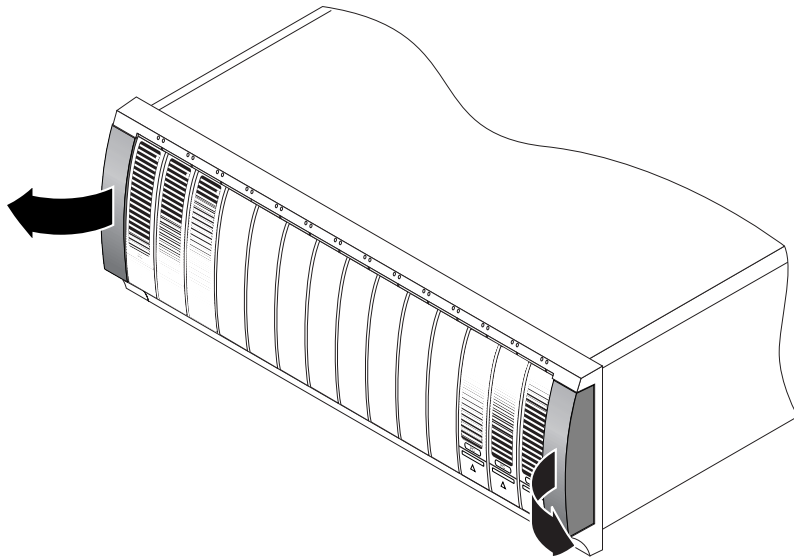

FIGURE 14 Removing the End Caps on the Array Module
1. **Unsnap and remove the left and right end caps on the array module to permit access to the screw mounting holes (FIGURE 14).**